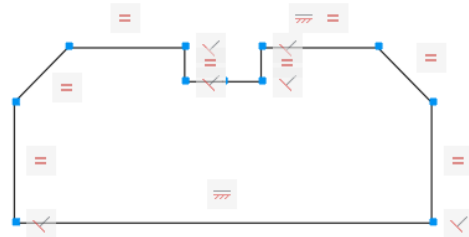

Figure 1-9 Sketch after applying all constraints
6. Similarly, apply the equal constraint between the two inclined lines, two small vertical lines, and two small horizontal lines. The sketch after applying all the constraints is shown in Figure 1-9.